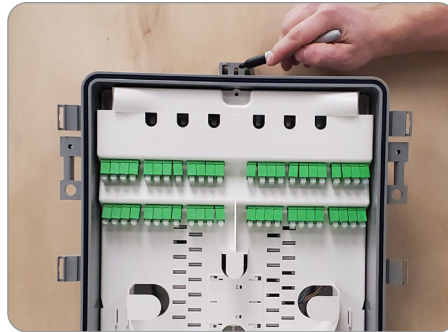

Figure 6
2. Identify the two mounting points found on the top and bottom of the enclosure and mark to be pre-drilled for enclosure placement (Figure 6). ****NOTE**** Mounting hole positions are approximately 16 ½ inches apart (Figure 7).